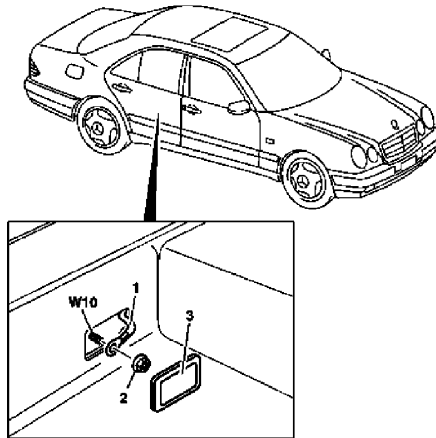

Fig. 1 Ground cable removal
3. Insulate terminal of ground cable to avoid unintentional contact between ground cable (1) and ground point (W10). Connect quiescent current retention unit if required, **Fig. 1**.